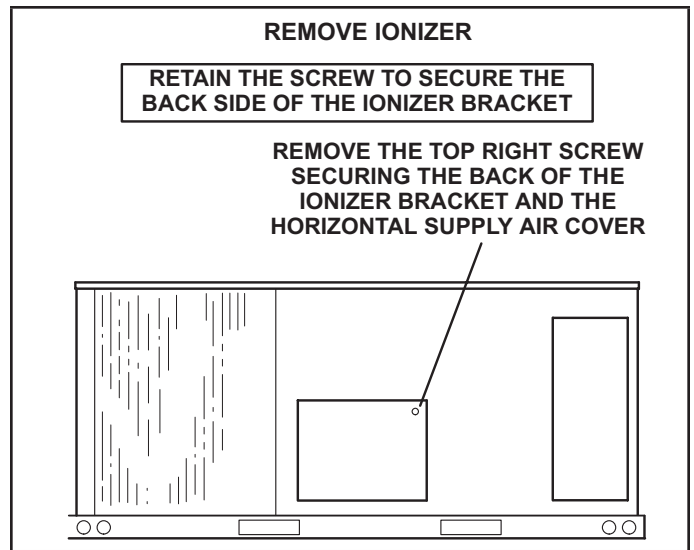

FIGURE 42
- 1 - On the back side of the unit, remove the screw securing the back of the ionizer bracket. See FIGURE 42. Retain the screw to secure the back side of the ionizer bracket.